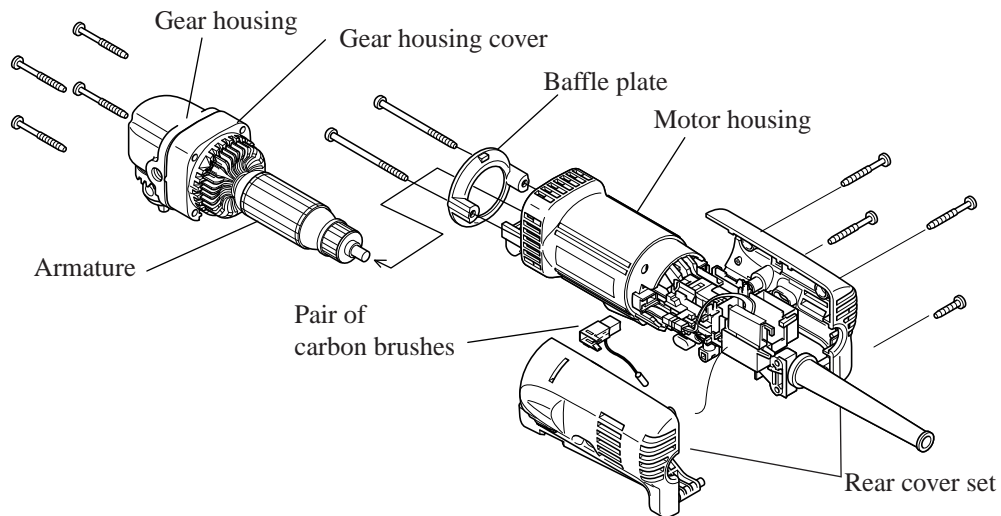

Fig. 14
(1) Remove the following parts from motor housing. See Fig. 14.